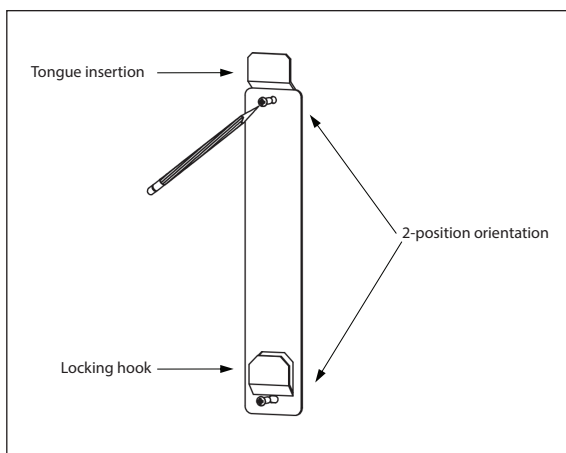

Figure 1
1. Place the wall-mount in a proper position and use a pencil to mark the holes as shown in figure 1.